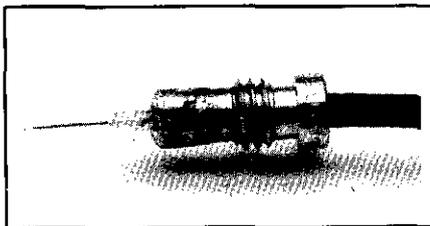

Fig 7—This reducer/cable assembly is ready to be turned into the connector body. Note the soldered copper foil cap at the narrow end of the reducer.
Fig 7—Using the horizontal (X-axis) and vertical (Y-axis) inputs of a single-trace oscilloscope as a dual-channel logic probe. Connect the X and Y inputs as shown at A. B shows the display when the inverter input is high, and C shows the display when the inverter input is low. Scope sensitivity is 5 V/div in these examples.
Fig 7 shows how you can simultaneously use the X and Y inputs of a single-trace scope to monitor the input and output of a TTL inverter. First, shut off the scope's sweep. (Reduce the display intensity so that the resultant stationary dot does not damage the CRT's phosphor coating.) Connect the scope's X input to the inverter input, and the Y input to the inverter output as shown in A. Set the X and Y amplifiers for equal sensitivity. Insets B and C of Fig 7 show the scope display for a functional inverter with input high (B) and low (C). If the input to the inverter is clocked, the displayed spot shifts rapidly between these two positions, resulting in a diagonal line. Need a trigger or third channel? Use your scope's beam intensity modulation (Z-axis) input. An inexpensive, single-trace oscilloscope can be surprisingly useful in digital troubleshooting when it is applied with imagination.—*B. N. Ensanian, K13U, Williamsport, Pennsylvania*
Strip ½ inch of dielectric from the cable center conductor. (Fig 7 shows the assembly at this point.) Grasping the thick end of the reducer, and keeping the soldered cap firmly against the end of the cable jacket, screw the connector body onto the cable (clockwise), making certain that the cable center conductor moves into the connector pin. As with the RG-8 installation procedure, don't twist the cable or the reducer—hold them steady while you screw on the connector body. When the soldered cap just clears the conductor holes, solder the cap to the connector body using the technique described for RG-8 cable.